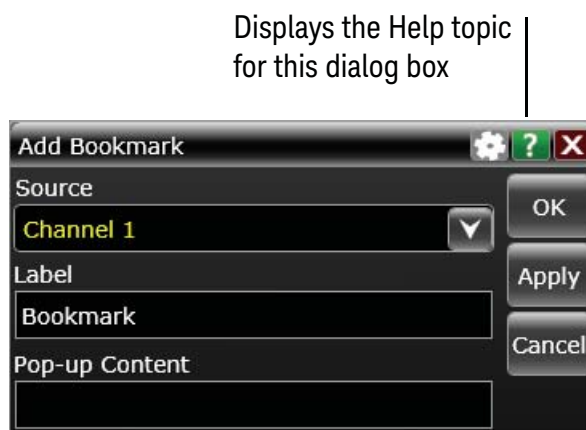

Figure 20 Help button for dialog box Help
- Click the question mark near the top right corner of a dialog box to open the help topic for that dialog box (**Figure 20**).